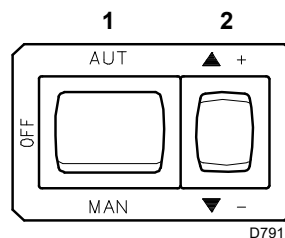
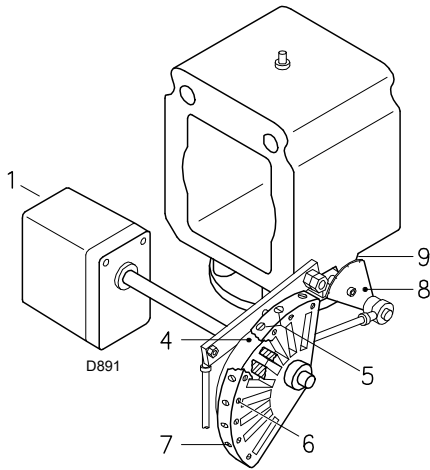
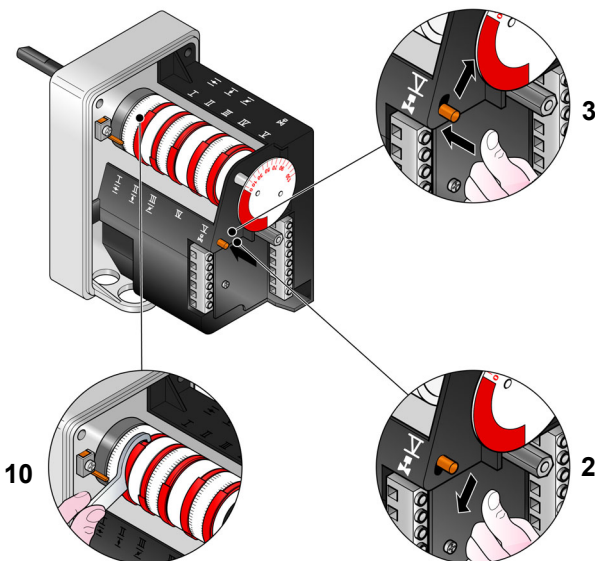
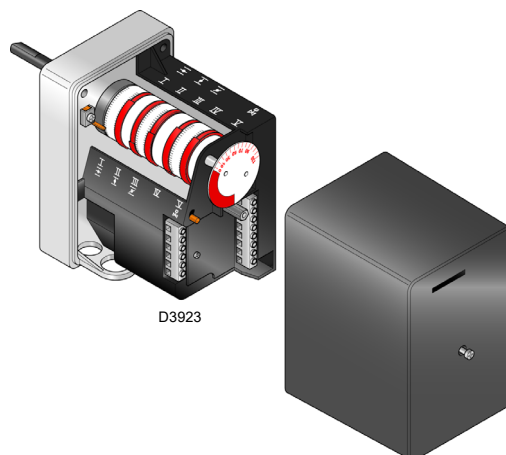

Fig. 31
Fig. 32
Fig. 33
Fig. 34
Close the thermostats/pressure switches and turn the switch in Fig. 31 to position “MAN”.
The air is adjusted by changing the angle of cam III (Fig. 34, on page 27) and by using the selector 2 (Fig. 31). To adjust the cam of the servomotor, see Fig. 33.
Now press the “increase output” button 2 (Fig. 31), and keep it pressed until the servomotor has opened the air damper and the gas butterfly valve.
The air is adjusted by varying the angle of cam I) (Fig. 34, on page 27) and by using the selector 2)(Fig. 31, on page 25). To adjust the cam of the servomotor, see Fig. 33.
Key (Fig. 32)
MIN output must be selected within the firing rate range indicated in Fig. 2, on page 8. Press button 2)(Fig. 31, on page 25) "Output decrease" and keep it pressed until the servomotor reaches (Fig. 33) the factory adjustment.
Progressively adjust the end profile of the mechanical cam 4)(Fig. 32), using the screws 5)(Fig. 32).
Bring the output to 800 kW using the screws 5) of the mechanical cam (Fig. 32) and check the emissions.
The regulation of the air is carried out using the angle of the cam III) of the servomotor (Fig. 34, on page 27) and by using the selector 2)(Fig. 31, on page 25).
To adjust the cam of the servomotor, see Fig. 33).
To adjust cam III, see Fig. 33, on page 26.
The passage from one position to the next one is obtained by pressing the button 2) on the symbol (+) or (-) (Fig. 31, on page 25). Press button 2)(Fig. 31, on page 25) "Output increase" briefly so that the servomotor rotates by about 20°, see servomotor graduated index Fig. 33 and air damper graduated index 8)(Fig. 32 on page 26).
Screw or unscrew the screw 5) of the mechanical cam (Fig. 32, on page 26) to increase or decrease the gas output so as to adjust it to the corresponding air output, to obtain optimal combustion.
Switch off the burner using switch 1)(Fig. 31, on page 25), OFF position, release the mechanical cam I) (Fig. 34, on page 27) to separate the gears of the servomotor, pressing and moving downwards button 3)(Fig. 33, on page 26), then manually rotate the mechanical cam I) (Fig. 33, on page 26) backwards and forwards a few times to check that the movement is smooth and without any hindrance.
It is recommended that the mechanical cam 5)(Fig. 32 on page 26) be bound again to the servomotor by shifting button 3)(Fig. 33, on page 26) upwards.
- 6s:** Servomotor start-up: turn to the right by 130°, i.e. until the contact intervenes on cam I (Fig. 34, on page 27). The air damper is positioned to MAX output.
- 80s:** The servomotor turns to the left to reach the angle set on cam III (Fig. 34, on page 27) for the MIN output.
- 112s:** The air damper and the gas butterfly valve reach the MIN output position (with cam III)(Fig. 34, on page 27) at 40°.